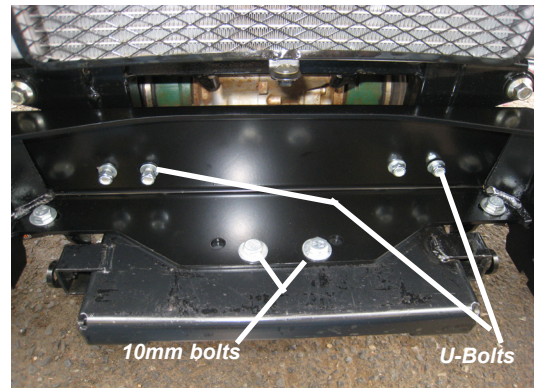

Figure 11
18. Place plow mount on front of vehicle and install two 5/16" u-bolts from behind and around the frame up-rights. Fasten u-bolts with 5/16" washers and lock nuts. Do not tighten. See figure 11.